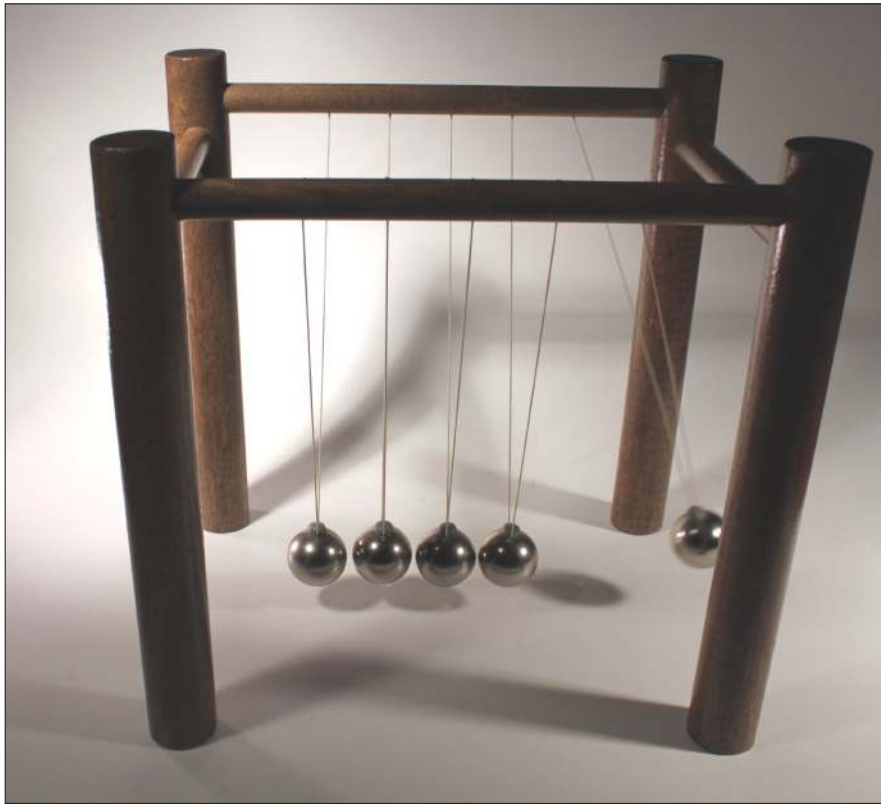

Figure 2-4:
- ◆ A popular toy called *Newton's Cradle* might help you understand how alternating current works. The toy consists of a series of metal balls hung by string from a frame, such that the balls are just touching each other in a straight line, as shown in Figure 2-4. If you pull the ball on one end of the line away from the other balls and then release it, that ball swings back to the line of balls, hits the one on the end, and instantly propels the ball on the other end of the line away from the group. This ball swings up for a bit, and then turns around and swings back down to strike the group from the other end, which then pushes the first ball away from the group. This alternating motion, back and forth, continues for an amazingly long time if the toy is carefully constructed.